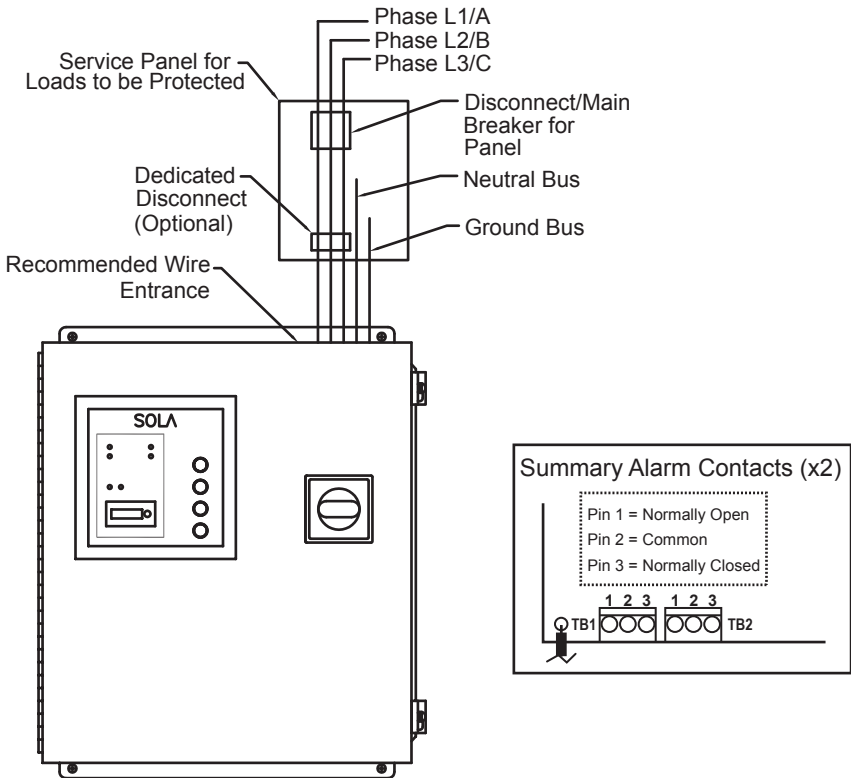

Figure 3: Installation drawing
7. Connect the black wires (line or phase) marked L1/A, L2/B, or L3/C; the white wire (neutral) marked N; and the green wire (ground) marked G. See Figure 3. Refer to Table 2 for suggested wire sizes.
8. If using the Summary Alarm Contacts for remote indication, connect with #18–22 AWG. Contacts are rated 5 A at 250 V ac (maximum) with a power factor of 1.0. See Figure 3.
9. Apply power. The unit is fully operational when the front door of the enclosure is closed and latched and the green LEDs on the modules are illuminated. If the green LEDs are extinguished or a red LED is illuminated, check to ensure that power is applied to the unit. If an abnormal indication is present, remove power to the unit and contact SolaHD Technical Support at (800) 377-4384.